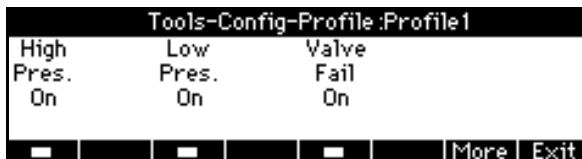

Figure F-16 Tools—Config—Profile: Profile # Menu
6. From the Tools—Config: Profile # menu select **Edit** to display the first profile configuration screen shown in Figure F-16.